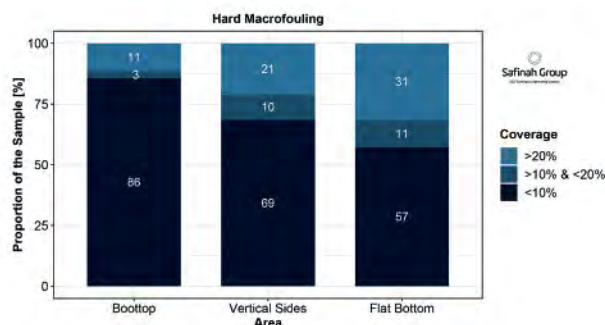

FIG. 3: HARD MACROFOULING COVERAGE AS A PROPORTION OF MAIN AREAS OF UNDERWATER HULL
representation of typical underwater hull conditions. Figs. 3 and 4 show the proportion of observations based on hard macrofouling coverage – namely: (1) less than 10%; (2) 10–20%; and, (3) more than 20%.
Animal fouling (hard and soft macrofouling) is frequently the predominant type found on flat bottoms as many of the organisms are not fully dependent on the availability of sunlight. The data shows that more than 40% of the ships were found to have in excess of 20% hard macrofouling on their flat bottoms (Fig. 3). This effect is a function of the choice of coating, ship type, operational profile (speed, activity and geographic area of operation) and maintenance practices amongst other factors.